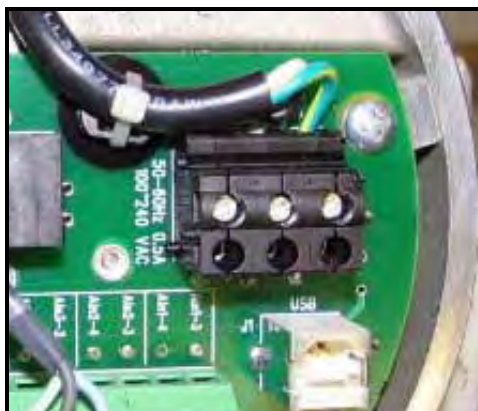

Figure 26: Power Terminal Block
3. Run the AC power connections to the Power Terminal Block shown in *Figure 26* below. It is recommended to use 12-18 AWG (3.3 - 0.82 mm2) power wiring.